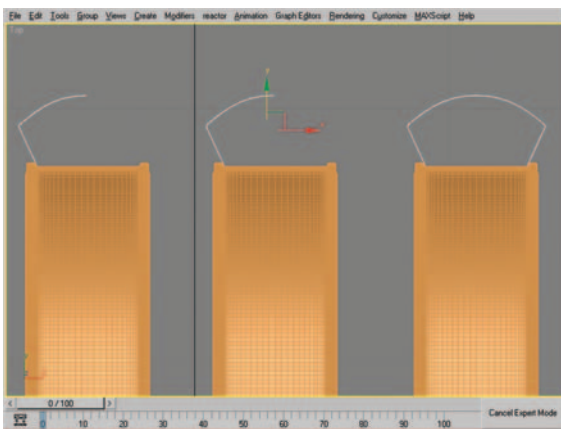

Figure 8.115 Spline (left), after mirroring and attaching (center), and after Fuse and Weld (right).
27. With the Line tool create a line shape similar to that seen in Figure 8.115 (left).
29. Fuse and weld the center point of the line and convert the vertex to Bezier (Figure 8.115, right).